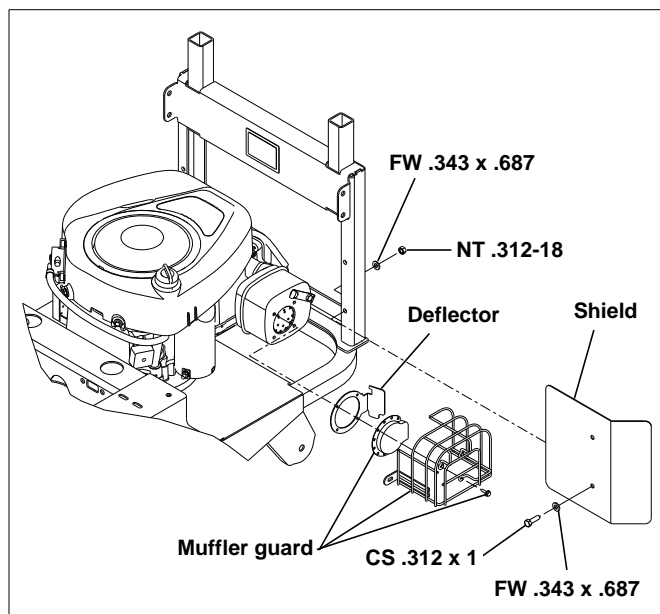

Figure 3-5
9. Remove the muffler guard from the engine. Figure 3-5
10. Attach the deflector to the muffler along with the muffler guard using the existing hardware. Figure 3-5
13. Attach the shield to the catcher support. Figure 3-5